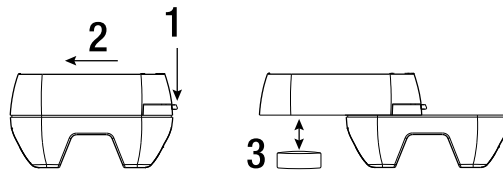

Figure 15.3 1. Press the tab down; 2. Slide the housing open; 3. Replace the battery.
1. Press the battery housing tab and slide the TA93 apart as shown in Figure 15.3.